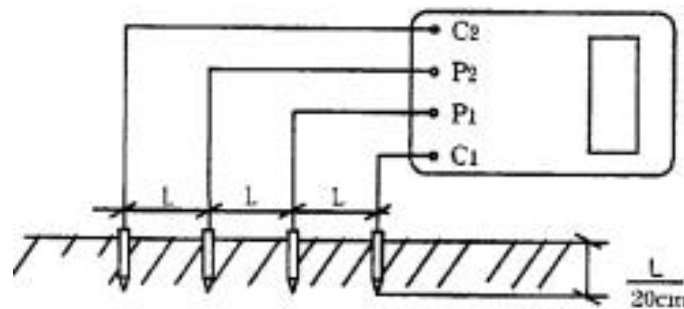

Figure 2
- ### 2. Soil resistivity measurement (Figure 2)